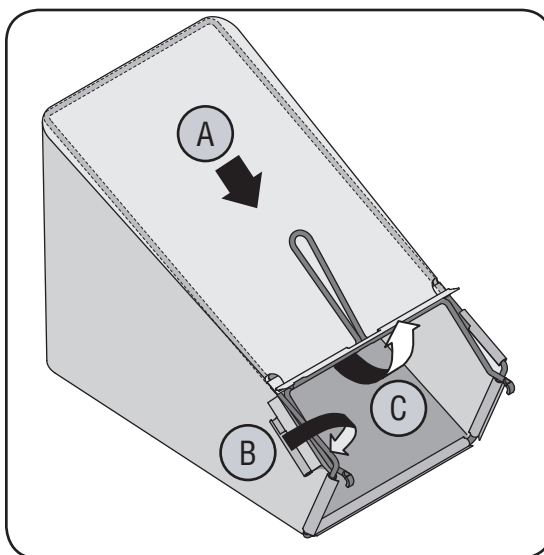

Figure 6
- a. Place bag over frame (black plastic side is the bottom of bag.) Insert the hooks on the frame through the holes in the side plastic channels of the bag. See Figure 6.
- b. Secure bag to frame by working the plastic channels on bag over frame as shown in Figure 6. All of the plastic channels except center top of bag attach from the outside of bag. Center top of bag attaches from the inside of bag.